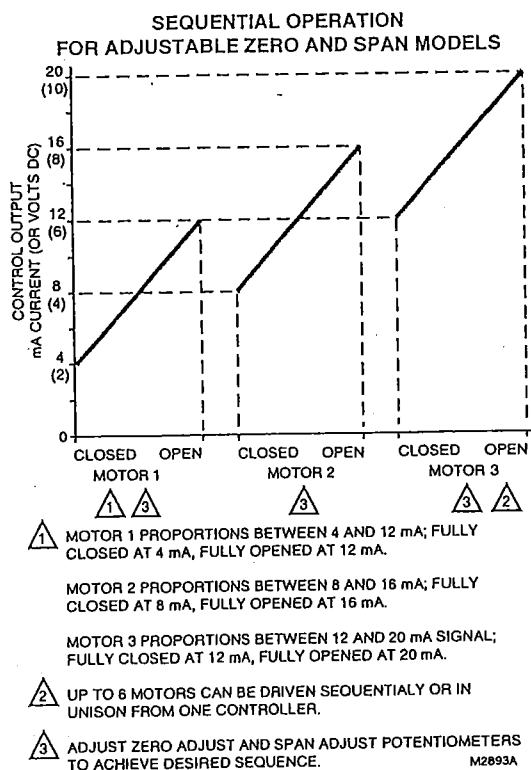

Fig. 9. Sequential operation of motors.
8. For sequential operation, as shown in Fig. 9, repeat the above steps for each motor.